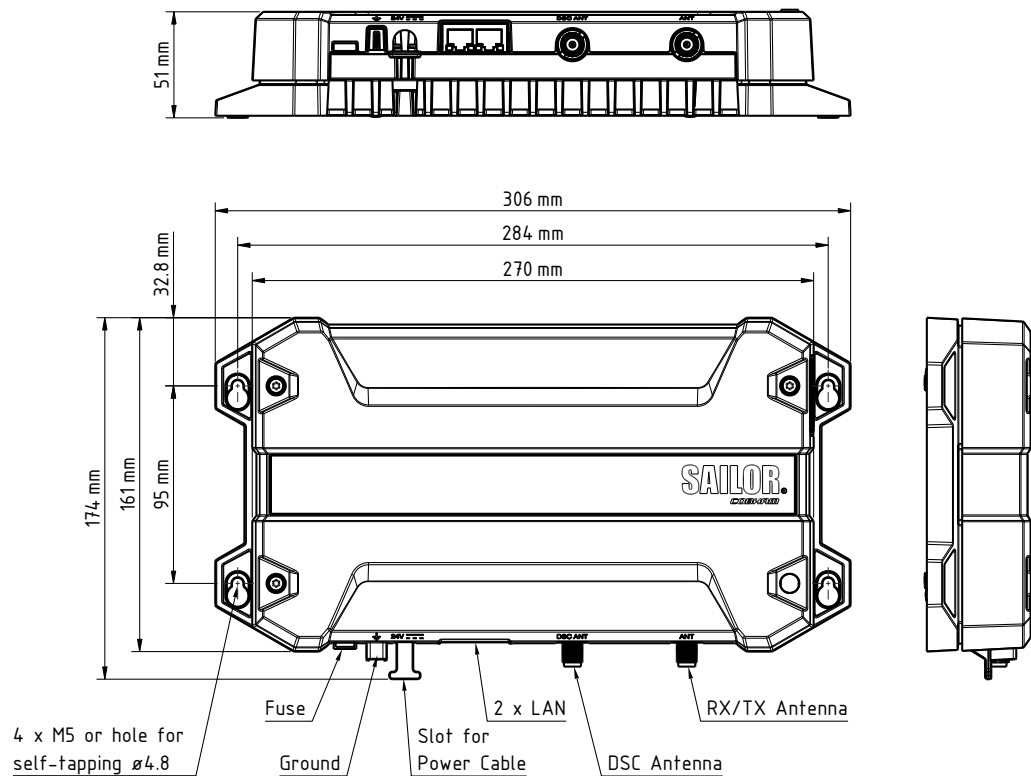

Figure 2-8: Transceiver Unit, dimensions
4. Mount the 4 screws in the cabinet, ensure that they are placed correctly according to the dimensions in Figure 2-8.